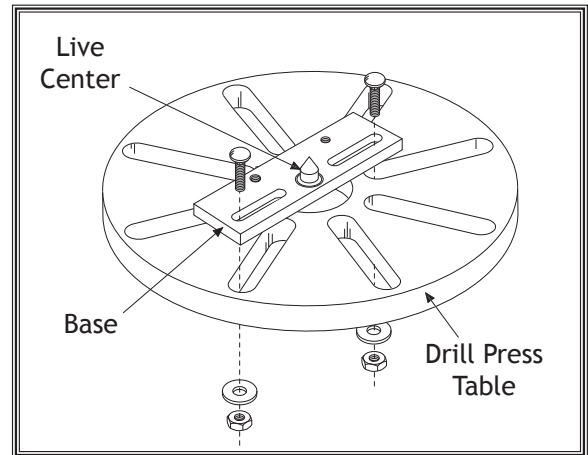

Figure 3. Mounting base to drill press table.
4. Place the base so the live center is located in the center of the drill press table, as shown in **Figure 3**.